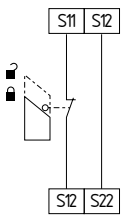

Fig. 9
**Single-channel guard door monitoring circuit with interlocking devices to ISO 14119 (Fig. 9)**